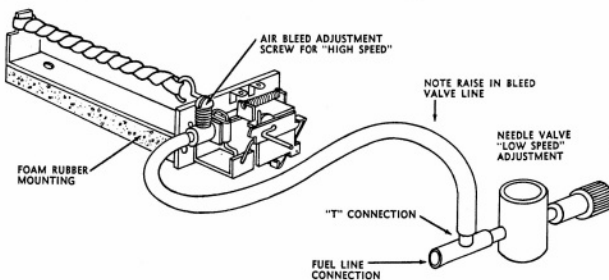

Figure 1
1. The simplest and fastest installation for motor control is using the single needle valve method (see Figure 1 below). This method requires no alteration of the engine. The easiest procedure of setting up the operation is first running the motor without the "T" connected and setting the mixture to the rich or low speed point. The engine can then be stopped, the "T" connection put in place, and the engine started again. With the air bleed closed, the motor will operate in low speed and, with the air bleed open, the adjustment screw can be turned in to lean or enrich the fuel mixture for high speed operation. It is well to point out that, with use of the bleed valve, the line from the "T" should go as high as possible above the needle valve so that fuel will not drain down to a low spot in the line and render the bleed valve inoperative.